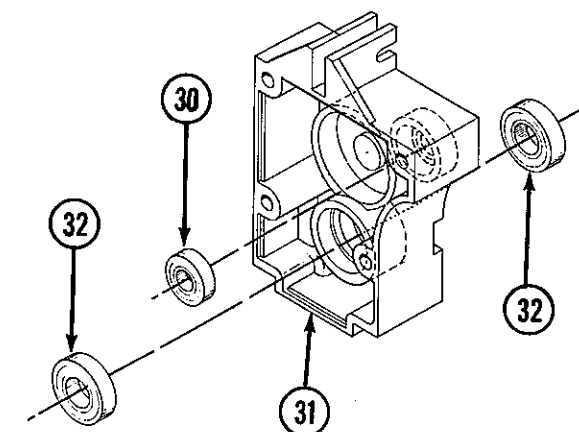

FIG. 14
13. Press a 3/16" x 3/8" bearing (30) into upper bearing seat of right half of gearbox (31). Fig. 14.
14. Insert two 8mm x 14mm bearings (32) into both sides of lower bearing seat of right half of gearbox (31). Fig. 14.